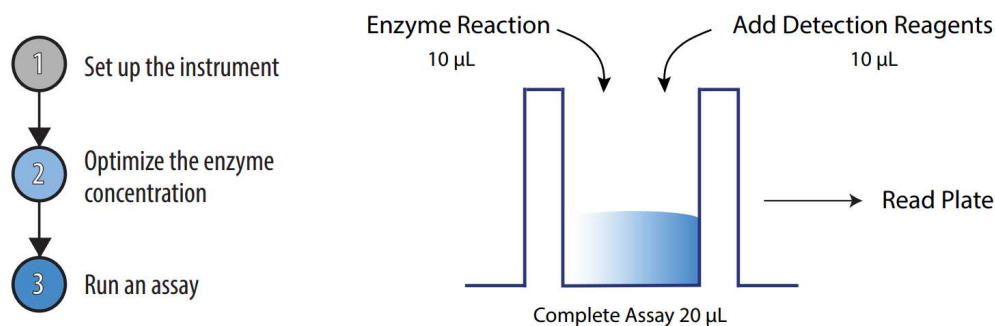

Figure 2. An outline of the procedure. The procedure consists of 3 main steps with a mix-and-read assay format.
- 4 The Transcreener cGAMP cGAS TR-FRET Assay protocol consists of 3 steps (**Figure 2**). The protocol was developed for a 384-well format, using a 10 μL enzyme reaction and 20 μL final volume when the plates are read. The use of different densities or reaction volumes will require changes in reagent quantities (see **Section 7.2** for example reaction volumes). Once the instrument parameters and enzyme optimization are complete, the assay itself consists of a single step, simply add detection reagents to your enzyme reaction and read the plate.